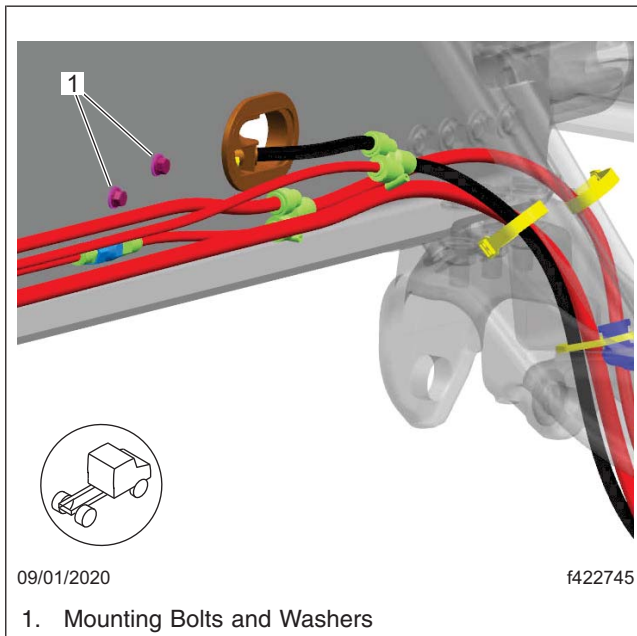
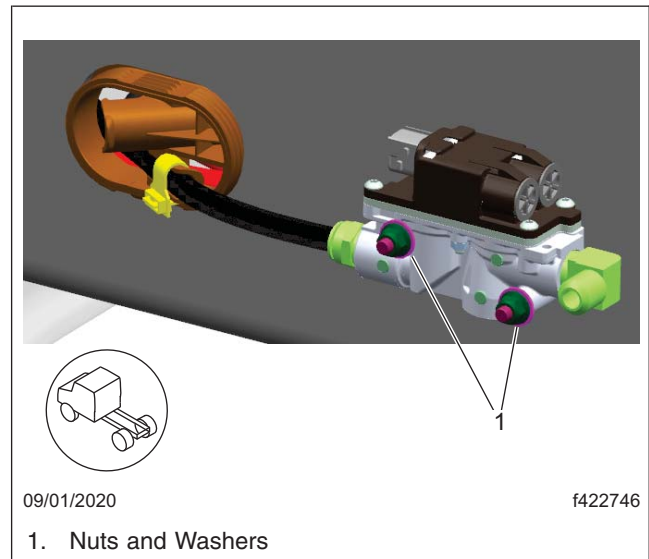

Fig. 12, Modulator Valve Fasteners, Inside Frame Rail View
Fig. 13, Modulator Valve Fasteners, Outside Frame Rail View
11. Use a 1/2-inch socket wrench along with the new bolts, spacers, and washers (supplied in the kit) to install the modulator on the vehicle. Tighten the bolts 11 lbf-ft (15 N-m). See Fig. 10, Fig. 11, Fig. 12, and Fig. 13.